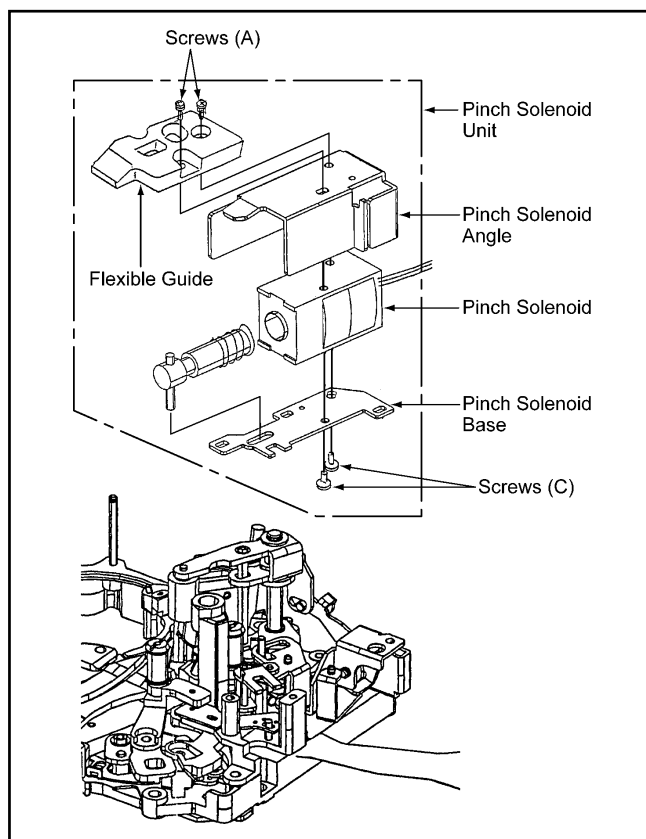

Figure 2-4-1
2. Remove the 2 screws (A) and remove the Pinch Solenoid Cover and Pinch Solenoid Angle as shown in Figure 2-4-1.
3. Remove the 2 screws (B) and remove the Pinch Solenoid with the base as shown in Figure 2-4-1.
4. Remove the 2 screws (C) and remove the Pinch Solenoid Base as shown in Figure 2-4-1.